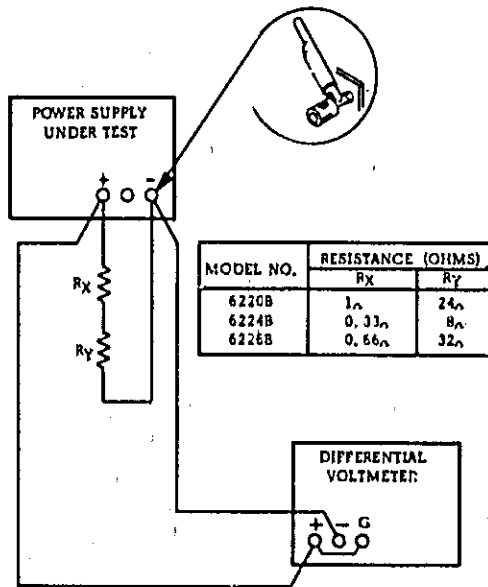

Figure 5-5. Load Regulation, Constant Voltage Test Setup
- a. Connect test setup as shown in Figure 5-5.
- c. Connect test setup shown in Figure 5-5.